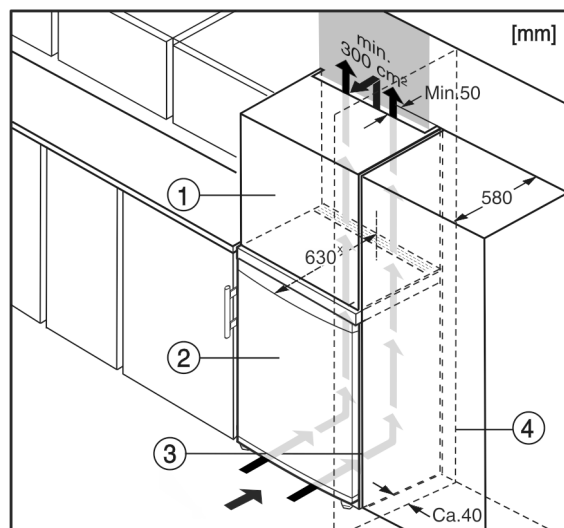

Fig. 6
(1) Top cupboard*
(2) Appliance*
(3) Kitchen cabinet*
(4) Wall*
The appliance can be built into kitchen units. A top cupboard Fig. 6 (2) can be added above the appliance in order to bring the appliance Fig. 6 (1) up to the height of the fitted kitchen units.
When fitting kitchen cupboards around the appliance (max. depth 580 mm), you can install the appliance directly next to the kitchen cupboard Fig. 6 (3). The appliance protrudes 34 mm * to the side and 50 mm * in the centre of the appliance in relation to the kitchen cupboard front.
If the appliance is set up with the hinges next to a wall Fig. 6 (4), the distance between the appliance and the wall must be at least 40 mm. This is how far the handle protrudes when the door is open.*